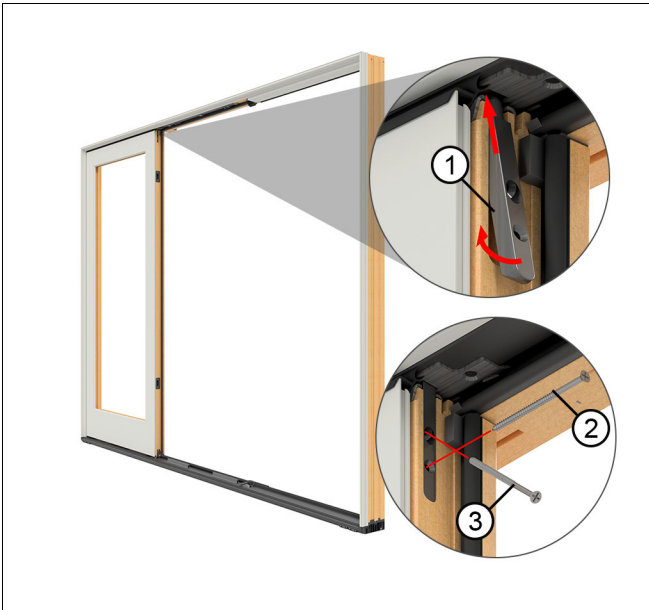

Figure 51
6. Install the end of the stationary bolt into the head jamb plate. Fasten to the stationary panel with the two #8 x 3" screws. Note that the top screw is installed at an angle. See Figure 51.